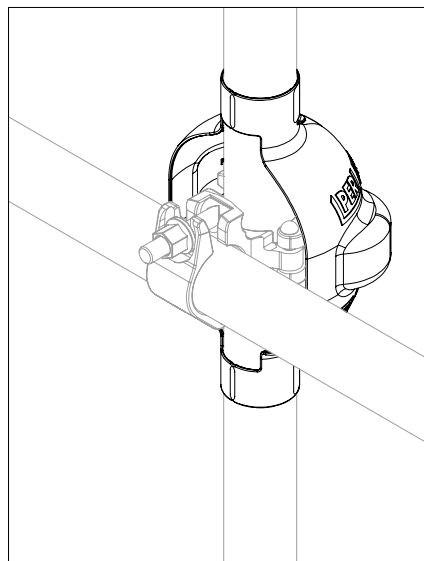

Fig. A8.07
4. In case of crossing tubes, mount 2x poly covers UPC-C overlapping on one or both tubes. (Fig. A8.07 + A8.07a)